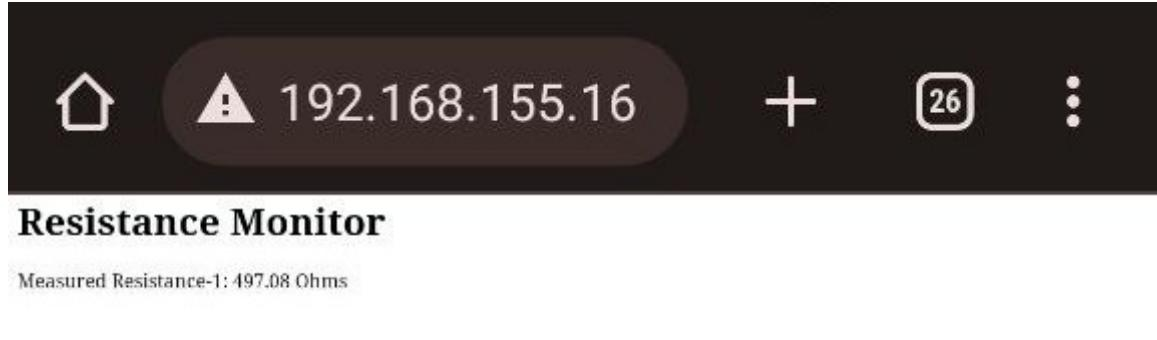

Figure 1.7.8.1: Website
1.7.8. In the website loaded by the IP address of Vaman-ESP32, the unknown resistance is displayed as shown in Fig. 1.7.8.1.